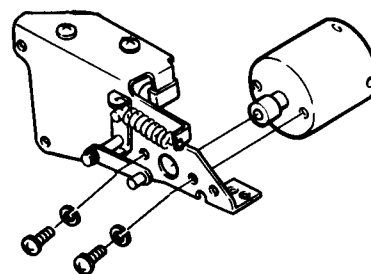

Fig. 12
1. When 2.6 x 3 screws are being used, 2.6 x 0.6t spring washers should be inserted (See Fig. 12)